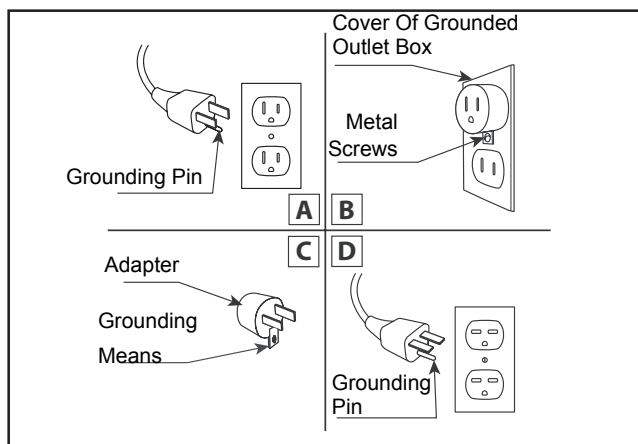

Fig. 1
23. See directions in Figure 1. This heater is for use on 120 volts. The cord has a plug as shown in Figure 1. See Figure 1 for grounding instruction. An adaptor as shown at C is available for connecting three-blade grounding type plugs to two-slot receptacles. The green grounding plug extending from the adaptor must be connected to a permanent ground such as a properly grounded outlet box. The adaptor should not be used if a three-slot grounded receptacle is available.